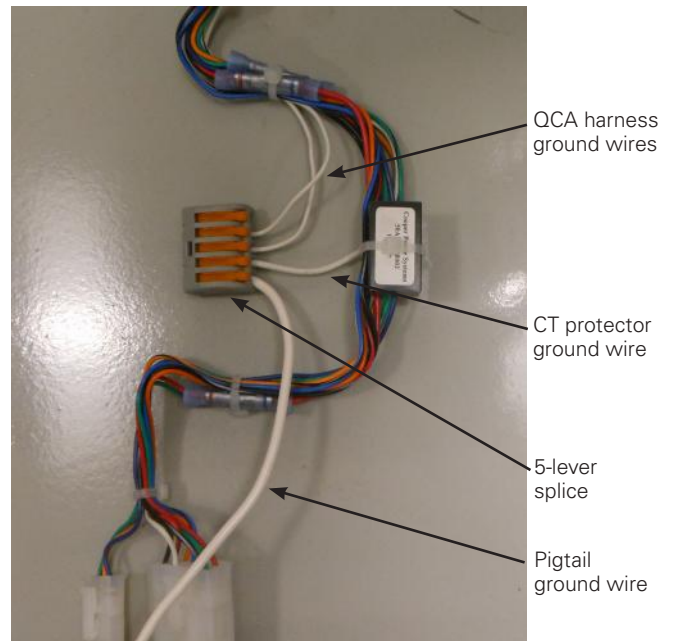

Figure 39. Connecting pigtail, QCA harness, and CT protector grounds.
14. Use the 5-position lever splice to connect together the ground wires from the pigtail, QCA harness, and CT protector. See Figure 39. To connect the wires to the splice, lift a lever, insert the wire, and then press down on the lever to secure the wire.